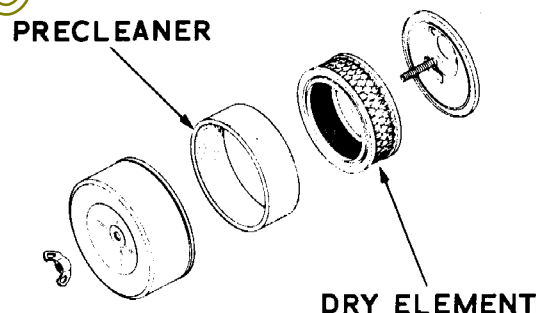

FIGURE 11
8. Tractor and Engine Maintenance. See Figure 11.